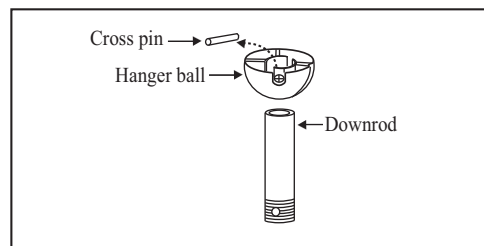

Figure 8
4. Remove hanger ball from downrod assembly by loosening set screw, removing the cross pin, and sliding ball off rod. (Figure 8)